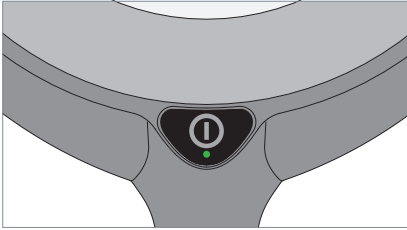

Fig. 8: Switch.
- ▶ Press the switch, see Fig. 8.
- ▶ Press the switch and keep it depressed, see Fig. 8.
- ▶ Press the switch twice in quick succession, see Fig. 8.